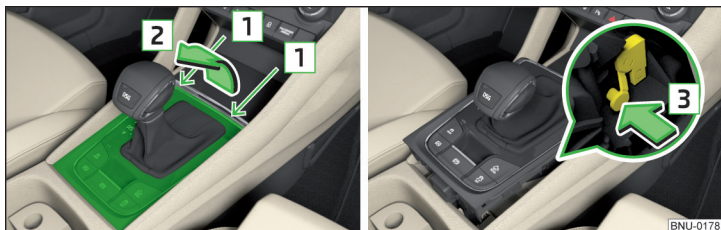

Fig. 336 Remove / release the selector lever
- › Insert a slotted screwdriver or similar tool into the gap in the area of arrow **1** » Fig. 336 and lift the cover in arrow direction **2**.